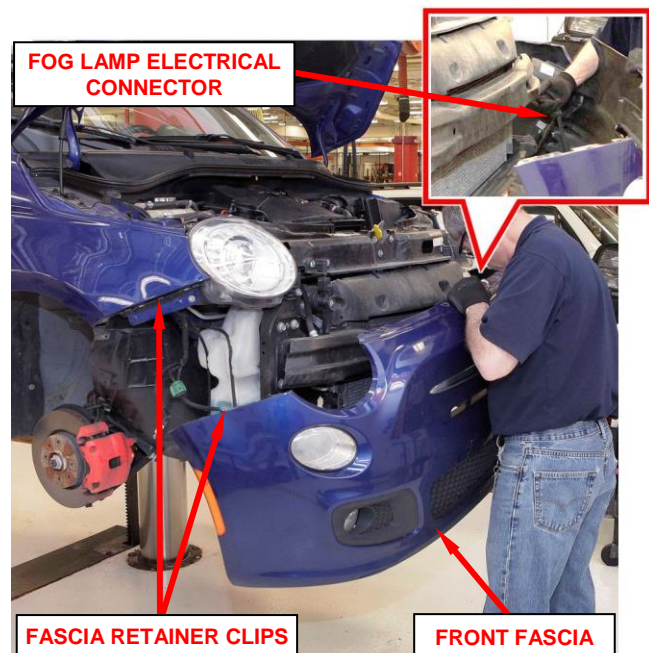

Figure 31 – Electrical Connector
25. Release the front fascia retainer clips along the left and right side fender edges (Figure 31).
26. Disconnect the fog lamp electrical connector from the front fascia (Figure 31).
27. Remove the front fascia and save in a safe area to prevent paint damage (Figure 31).